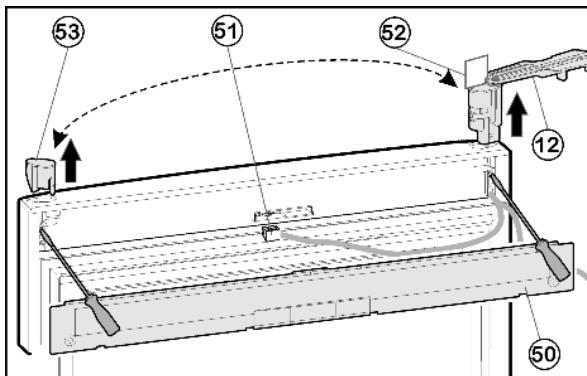

Fig. 10
- ▶ Using a screwdriver, remove the cover Fig. 10 (50) on the door.
- ▶ Disconnect the plug connector Fig. 10 (51).
- ▶ At the upper door, rotate the turn hinge Fig. 10 (12) in an outward direction, parallel to the door edge.
- ▶ Using a screwdriver, push out the turn hinge Fig. 10 (12) from underneath and remove it from the door complete with cable.
- ▶ Using a screwdriver, push out the stopper Fig. 10 (53) from underneath and transfer it to the opposite side.
- ▶ Feed in the cable of the turn hinge Fig. 10 (12) at the opposite side and insert turn hinge.
- ▶ Remove the template Fig. 10 (52) and fasten it in the turn hinge.
- ▶ Plug in the plug Fig. 10 (51).
- ▶ Engage the cover Fig. 10 (50) on the door.